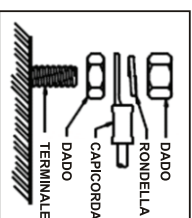

Fig. 3
- Tighten the connections as shown in Figure 3.